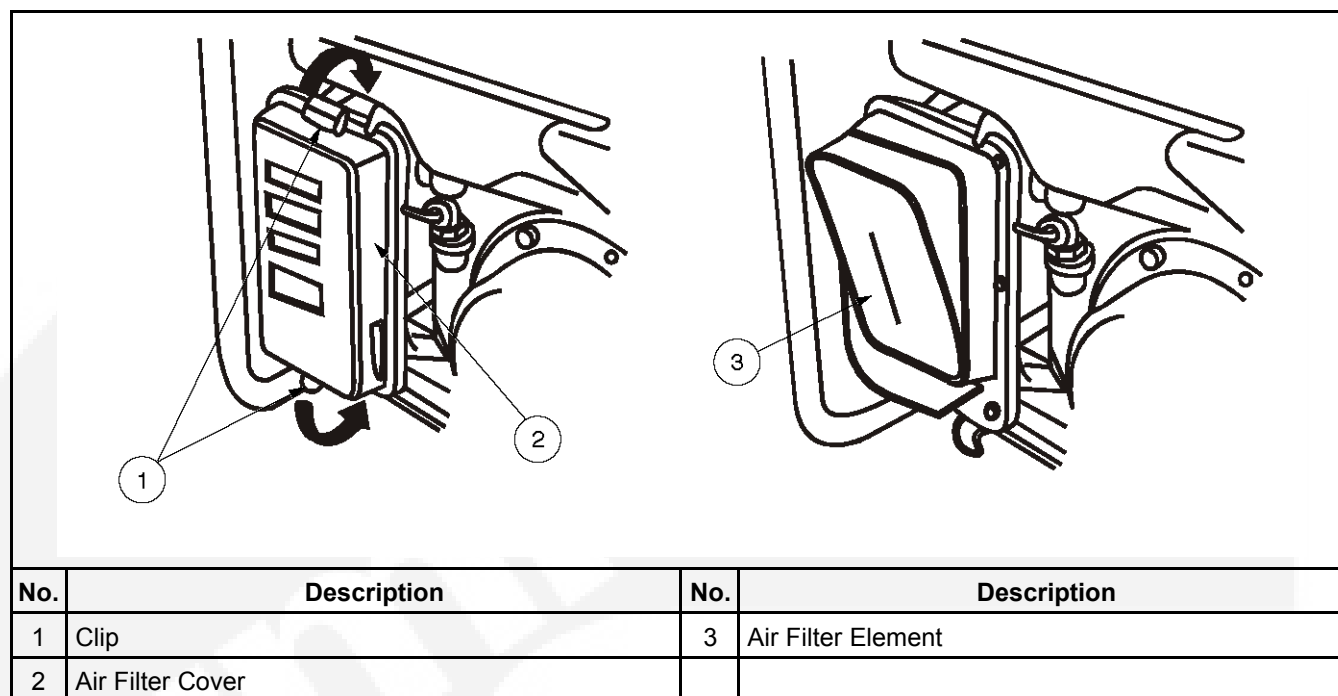

FIGURE 15. AIR FILTER
1. Remove the filter cover (Item 2 in Figure 15) by unsnapping the two spring clips (Item 1).